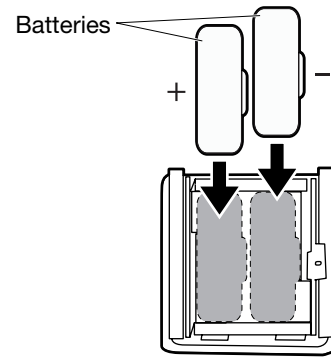

FIG. 10 Replacing the Batteries
- To remove the batteries, carefully pry the battery holder up with a small flat screwdriver. Install the new batteries as shown in Fig. 10. Firmly place the battery holder into the switch.